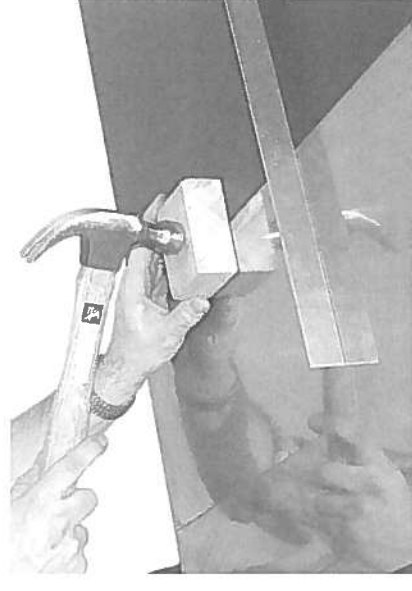

Figure 8
2. Use a rubber mallet (or a hammer and block of wood) to tap the extension table up flush against the cast iron saw table (Figure 8). Then tap down the extension table at various points along its edge where it meets the saw table, until it is level with the saw table (Figure 8).